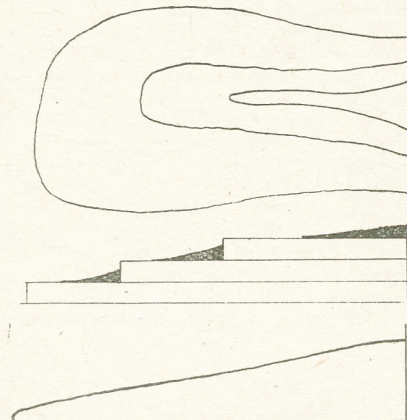

Fig. 1—Showing the building up of rising ground
If then you had further heights in the land, additional layers of wood could be added when worked out to their proper contours according to the map. These 'hills' can be built up by layers of wood of varying thickness, and an idea of them is shown in Fig. 1. At (A) you have the plain contour, at (B) is a section drawing showing the three layers of wood which build up the main substance of the hill. Finally at (C) you have the wood shaped off into one piece by tapering down to form the continuous hillside.